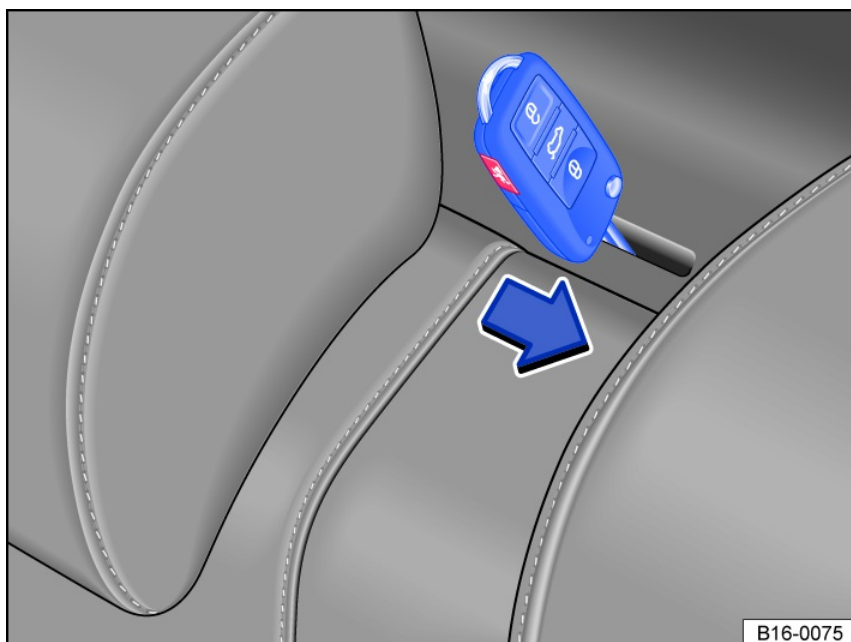

Fig. 62 Behind the rear seat backrest: mechanically unlocking the rear seat backrest using the emergency release.
- Insert the vehicle key in the slot fig. 62 to unlock the rear seat backrest and press in the direction of the arrow.